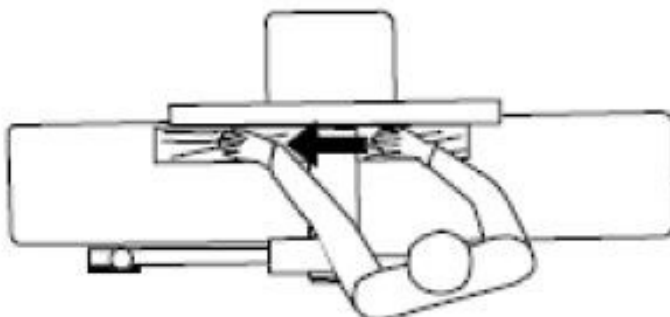

Fig.6-27: Correct working position
- After the cut, the new surface rests firmly on the outfeed table. The left hand is moved to the outfeed side (Figure 6-27) and presses on this part of the workpiece, maintaining flat contact with the stop.